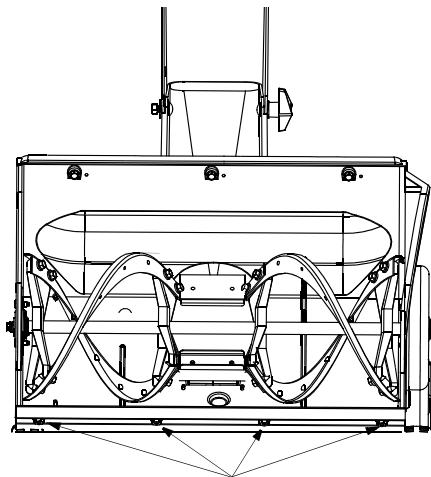

Figure 7
- To adjust, tip the snow thrower back so that it rests on the handle. Loosen the four lock nuts and bolts which secure the shave plate to the housing. See Figure 7. Move the shave plate to desired position and retighten the nuts and bolts securely.